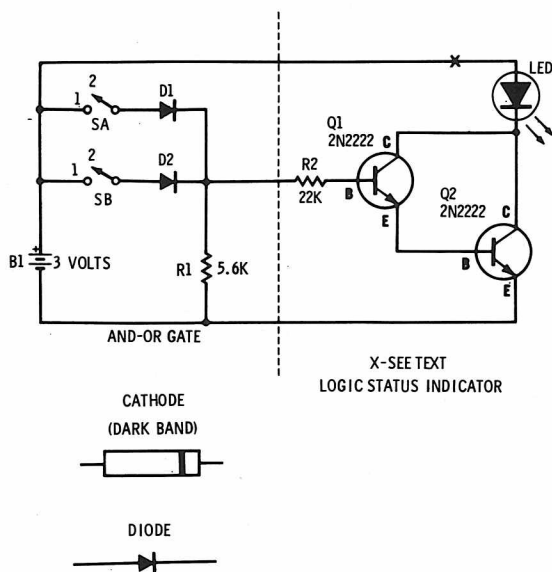
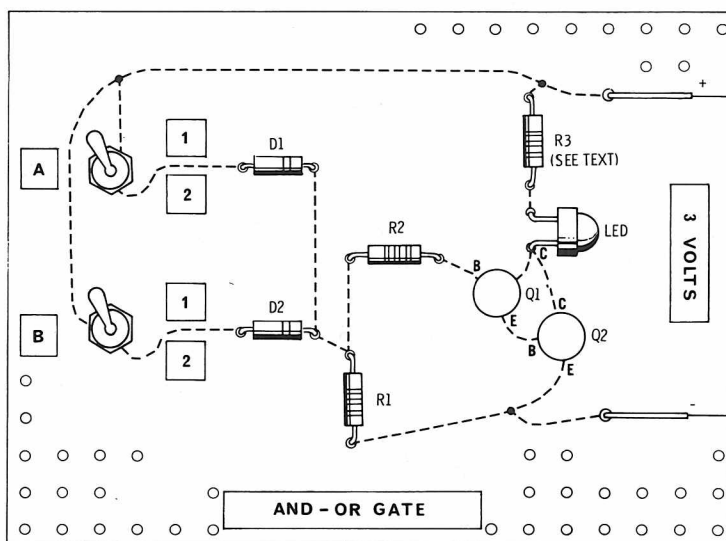

Figure 4-1. Combination AND-OR gate.
Figure 4-2. Pictorial wiring diagram of the AND-OR gate.
The circuit diagram for the combination AND-OR gate is shown in Figure 4-1. The circuit operates as both a positive-logic OR gate and a negative-logic AND gate. In the positive-logic mode, both switches must initially be in the 2 position (open). If either switch A *or* B is moved to the 1 position (closed), the circuit functions as an OR gate and a positive logic 1 will appear at the output of the two diodes. If a logic probe is connected to the output, its LED will glow.
included. If you operate the circuit with a 6-volt power supply, insert a 220 ohm resistor at point "X" in Figure 4-1. If the resistor is not included, excessive current will flow through the LED and it may be degraded or even destroyed.
The pictorial in Figure 4-2 shows a suggested parts layout for the combination AND-OR gate. The parts list is given in Table 4-1. Begin assembly by drilling two holes in one end of the board to accept the two input switches. Toggle switches are easier to mount, but slide switches are more economical.
the diode and should face *away* from the switch it is connected to. Bend the leads of both diodes at right angles and insert them in the board as shown in Figure 4-2. Solder the cathode leads of each diode to one another, and solder the anode lead of D1 to the center terminal of switch A and the anode lead of D2 to the center terminal of switch B. Complete assembly of the gate circuit by bending the leads of R1, a 5,600 ohm resistor (green-blue-red), at right angles and inserting them into the board as shown in Figure 4-2. Solder one end of R1 to the junction of D1 and D2.
cator can be mounted on the board. If you assembled one or both indicators in Chapter 3, simply connect either circuit to the combination gate by referring to Fig. 4-1. If not, build the Darlington or FET circuit described in Chapter 3 directly on the circuit board as shown in the pictorial in Figure 4-2. Detailed assembly instructions for the indicator circuit are given in Chapter 3.
Note that the indicator circuit shown in Figures 4-1 and 4-2 does not include a resistor to limit current through the LED. This is because the recommended power supply voltage is only
3 volts. If a 6-volt supply is used, insert a 220 ohm current limiting resistor (R3) at point "X" in Figure 4-1.
Inspect the circuit to make sure all the connections are correct, and then connect the battery to the circuit as shown in Figure 4-2. Test the positive-logic OR gate by placing both switches in the 2 position. If switch A *or* switch B is moved to the 1 position, the LED should immediately glow. Since this is a nonexclusive OR gate, the LED will continue to glow if both switches are placed in the 1 position.
Radio Shack stocks several housings which are well suited for this project. If you would like the various components to be visible, choose a Perfbox (TM) (catalog number 270-097) or a "P-Box" (270-105). The circuit can be mounted on the perforated cover of the box just as shown in Figure 4-2. Mount the battery holder to the back of the housing with appropriate hardware.